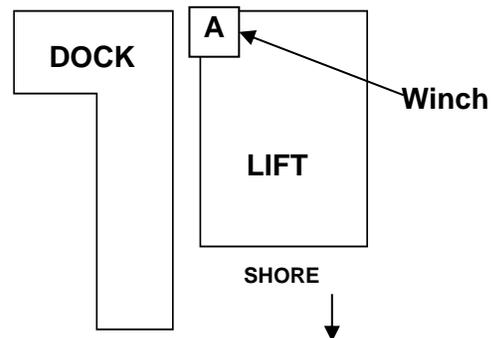

FIG. 38 – PREFERRED POSITION ABOVE
2. When lift is placed into the water, the winch needs to be positioned next to the dock (See FIG. 38 and 39). Position lift accordingly before placing lift into water.
**NOTE:** The PREFERRED POSITION of the lift is on the right side of the dock when viewed from the shore (See FIG.38). When the lift is installed in this position, the winch and lifting cable are at the rear of the boat where most of the weight load is concentrated. The lift may be installed on either side of the dock but, keep in mind, if you have a choice, install it as shown in FIG. 38.